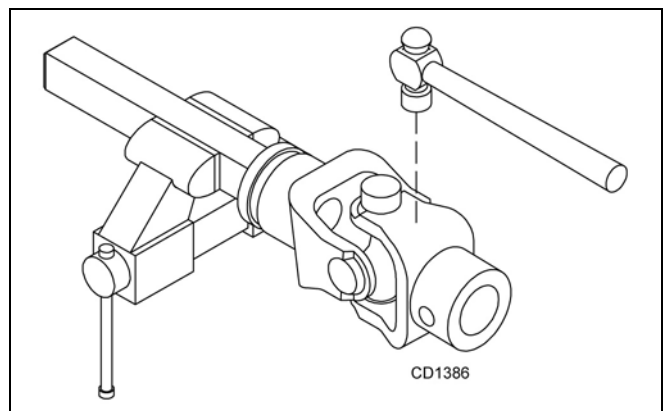

Figure 24
2. With snap rings removed, support drive in vise, hold yoke in hand and tap on yoke to drive cup up out of yoke. See Figure 24.